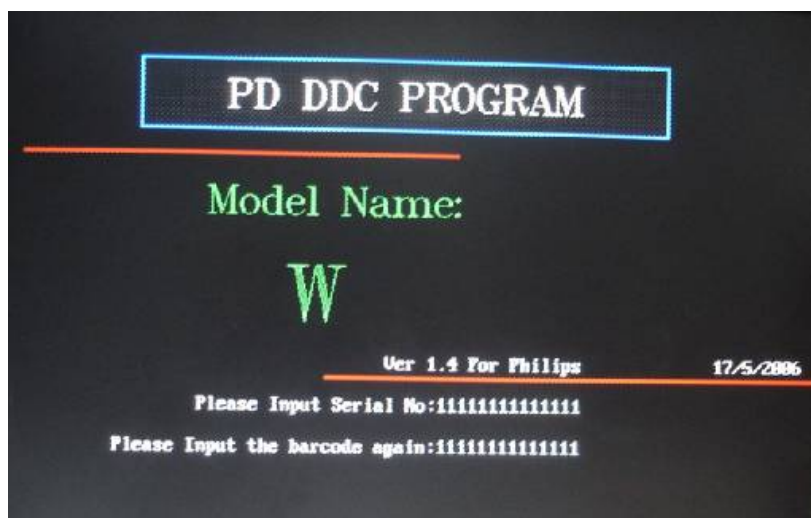

Fig 4
- Enter and press "F3" key to input Serial No. again as shown Fig 4. Enter The Serial No. length is "14" as shown Fig 4.